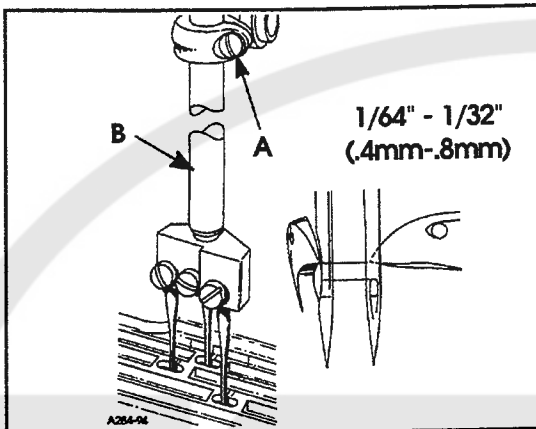

FIG. 9
The height of the needle bar is correct when the top of the needle eye is $1/64"$ to $1/32"$ (0.4mm - 0.8mm) below the underside of the looper, with the looper point even with the right side of the needle. To make adjustment loosen screw (A, Fig. 9) and move needle bar (B) as required to attain dimension.